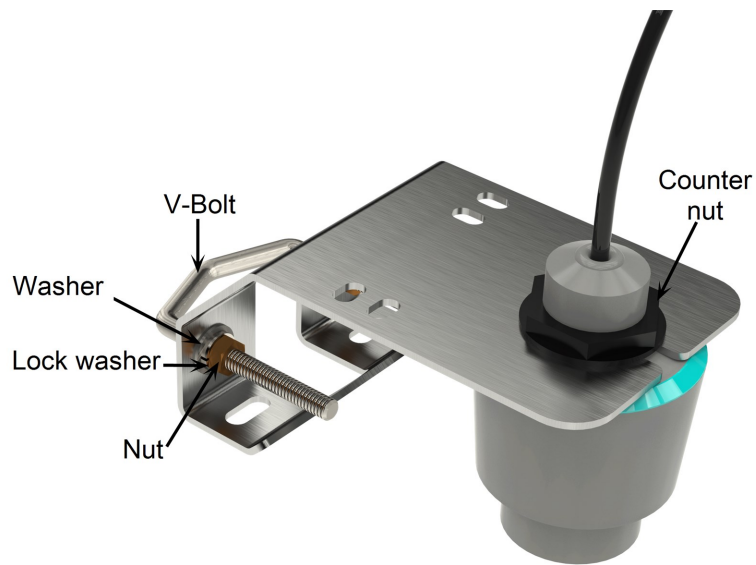
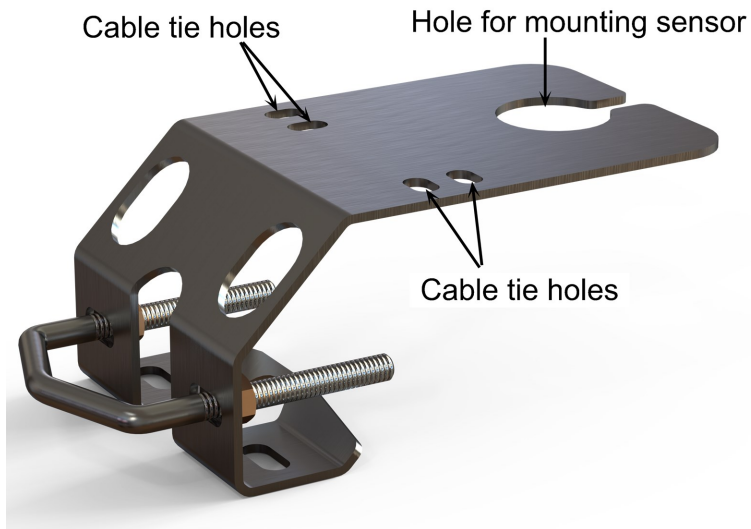

Figure 7-2. RangeVue 15 mounted in the RangeVue-series bracket
Figure 7-3. RangeVue-series bracket
1. Secure the RangeVue-series bracket to a 1-inch diameter nominal pipe) using the V-clamp, washers, lock washers, and nuts (see Figure 7-2 [p. 13]).
2. Place the RangeVue-series in the bracket (see Figure 7-2 [p. 13] and Figure 7-3 [p. 13]).
5. Secure the RangeVue-series to the bracket by tightening the counter nut (see Figure 7-2 [p. 13] and Figure 7-6 [p. 15]).